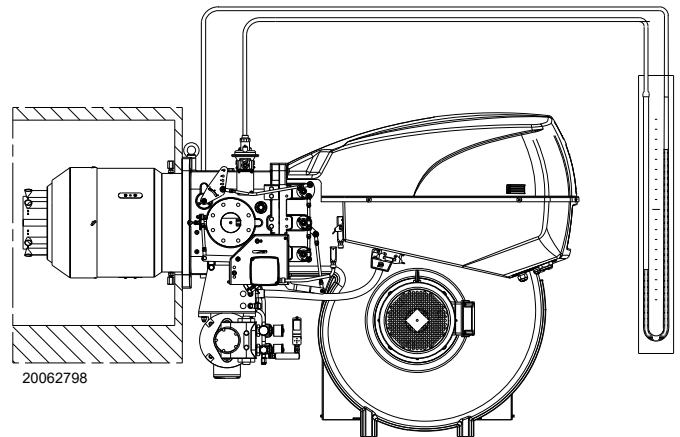

Fig. 31
- Fit a U-type pressure gauge or a differential pressure gauge (Fig. 31), with socket (+) on the gas pressure of the pipe coupling and (-) in the combustion chamber.
The arrival of gas to the sleeve is indicated by the U-type pressure gauge (Fig. 31).